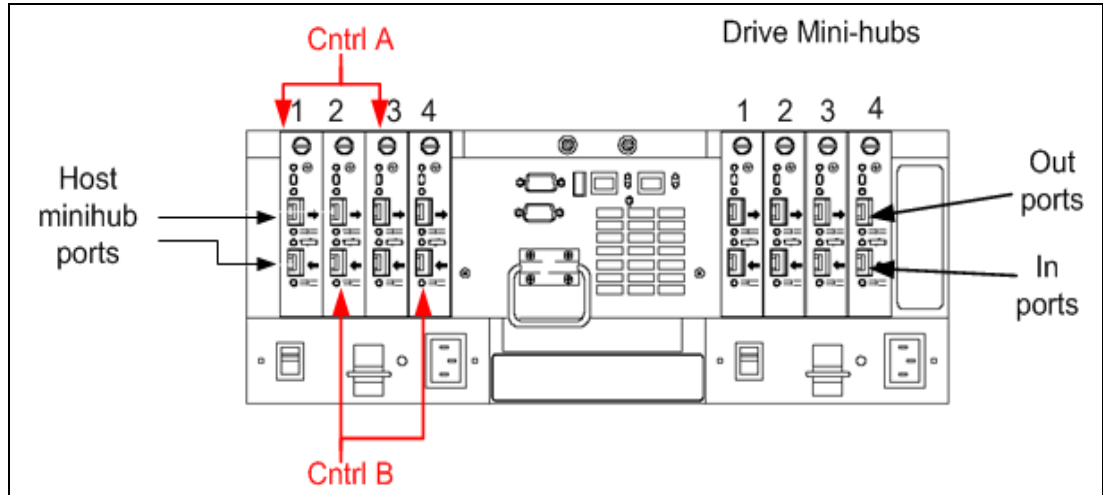

Figure 3-20 Rear view of the DS4500 Storage Server
The DS4500 has up to four host mini-hubs. The mini-hubs numbered 1 and 3 correspond to the top controller (controller A), and mini-hubs 2 and 4 correspond to the bottom controller (controller B). These are illustrated in Figure 3-20.
4. If you are cabling a second group, repeat step 1 to step 3 and reverse the cabling order; connect from the Out ports on the ESM boards to the In ports on successive expansion units according to the illustration on the left. See Figure 3-20 on page 87.